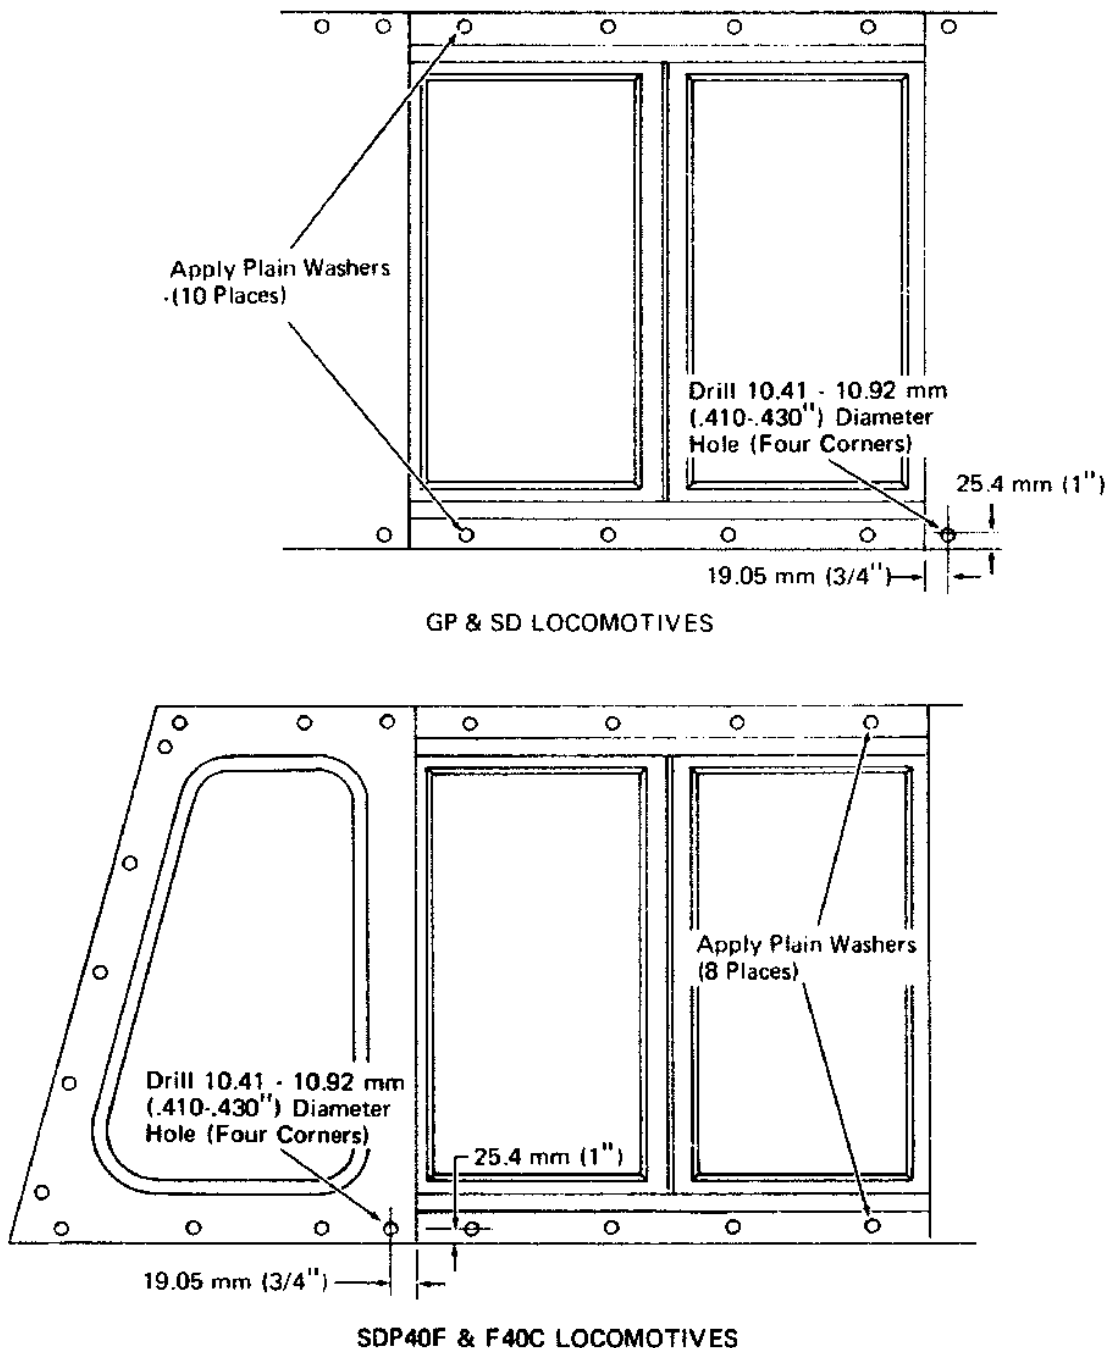

Fig. 20 - Locomotive Sash Assemblies
3. Add four additional 10.41 mm - 10.92 mm (.410" - .430") holes in each sash as shown in Fig. 20. These holes will reinforce the corner welds or, if panels have separated, will clamp the sheets together.
- The rivets applied to top and bottom of window opening, Fig. 20, require plain washers. (See Service Data.) Place washer under rivet head prior to insertion to ensure tightness.